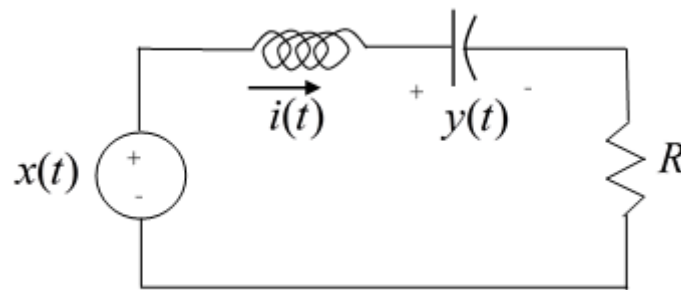

Figure 7: Second order system (RLC Circuit)
2. Construct the circuit in Figure 7 on your breadboard with  $L = 33 \text{ mH}$ ,  $C = 0.01 \mu\text{F}$  and R is the **10 k $\Omega$  variable resistor**.